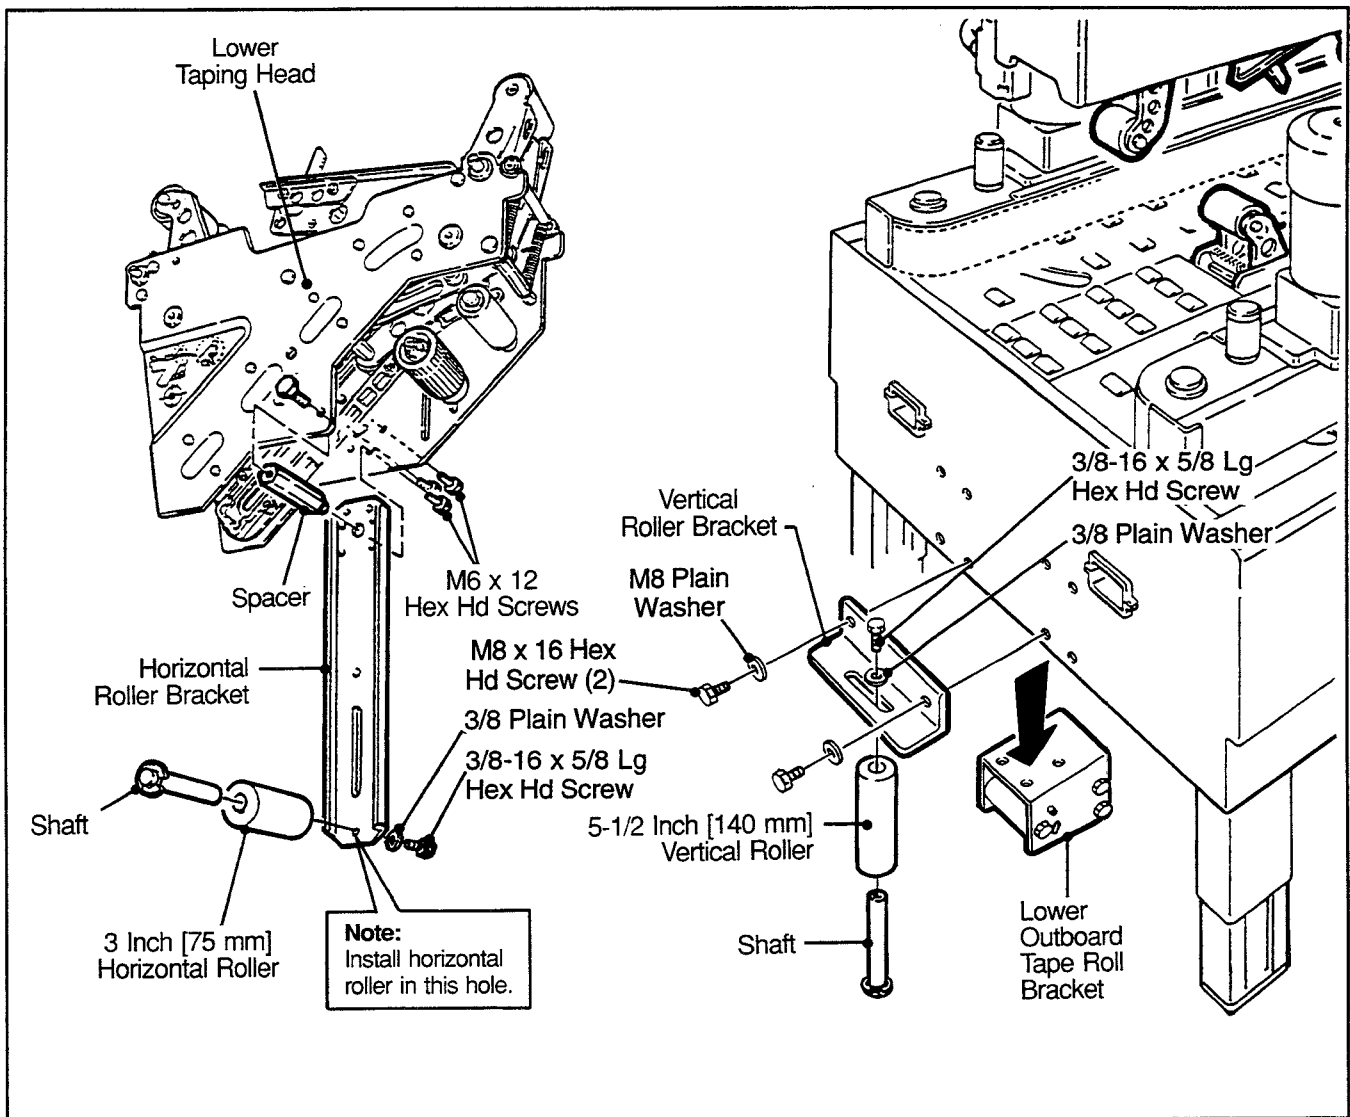

Figure 2-3 – 800af Lower Taping Head
(Refer to Figure 2-3)
2. Remove tape drum bracket assembly or roller bracket assembly from taping head (if so equipped), and replace with horizontal roller bracket using (2) M6 x 12 hex hd screws as shown.
- Note** – If spacer (shown in Figure 2-3) was used with existing tape drum or roller bracket assembly, use it with new horizontal roller bracket as shown.
6. Attach vertical roller (angle) bracket to case sealer frame with (2) each, M8 plain washers and M8 x 16 hex hd screws as shown.